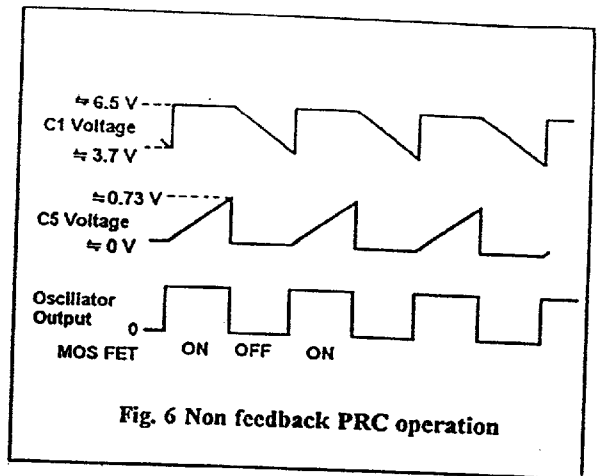

Fig. 6 Non feedback PRC operation
**PRC Operation In Absence Of Feedback (Refer To Figure 6)**